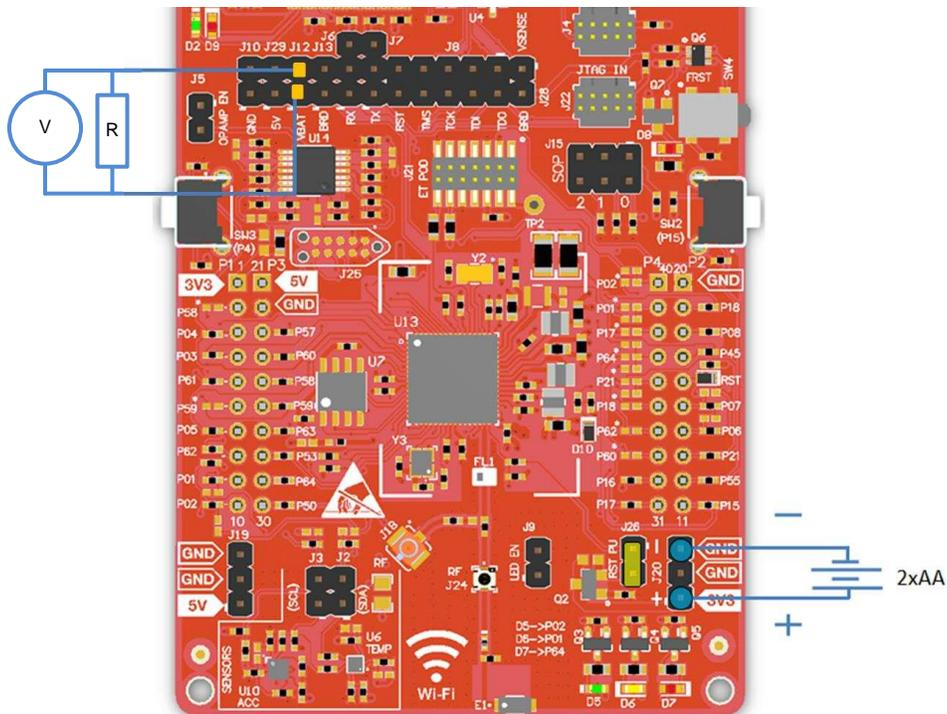

Figure 16. Active Power Measurements (>1 mA)
2. Solder a 0.1-Ω resistor on a wire, which can be connected to a voltmeter or oscilloscope as shown in Figure 16. Or, attach a jumper wire between J12 so that it can be used with a current probe.